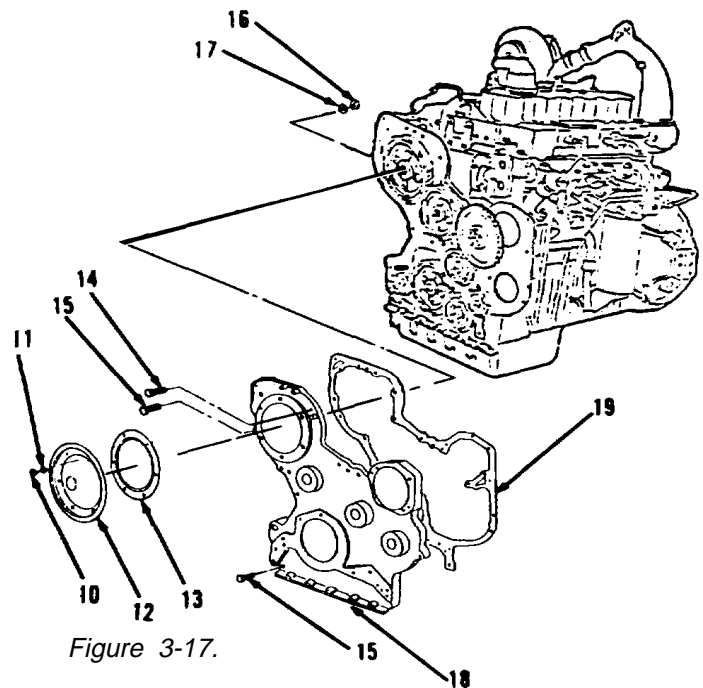

Figure 3-17.
6. Remove six nuts (10) and washers (11, Figure 3-17).
7. Remove cover (12) and gasket (13). Discard gasket (13). Remove all gasket material from mounting surfaces.
8. Remove two bolts (14).
9. Remove bolts (15), nuts (16) and washers (17).
10. Remove cover (18) and gasket (19). Discard gasket (19). Remove all gasket material from mounting surfaces.